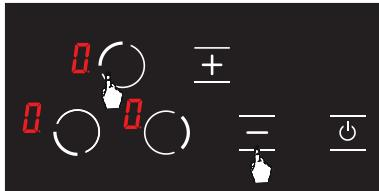

Figure 18
- Press upper left hob selection key (**○**) and minus key (**-**) simultaneously, you shall hear a short warning signal at this time. (see Fig. 18) Then, remove your fingers from the stove control panel.